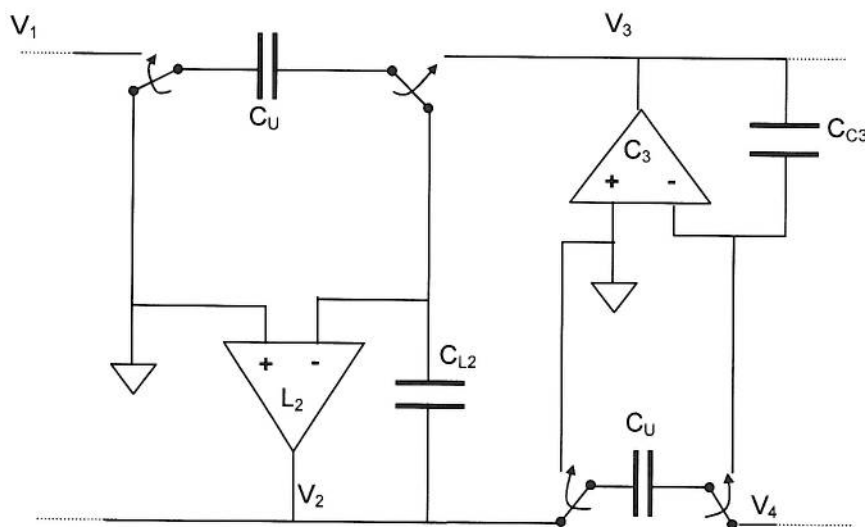

Figure 6
- (b) Figure 6 shows one section of a switched capacitor ladder filter. Based on this filter structure, design a 3rd-order Chebyshev low-pass filter with a cut-off frequency of 5 kHz and a 1.0 dB pass band ripple. Assume a clock frequency of 100 kHz. Passive component values for the LC prototype, normalised to 1 rad/s, are $C_1 = C_3 = 2.0236$, $L_2 = 0.994$. In your analysis assume all integrators to be lossless. [10]